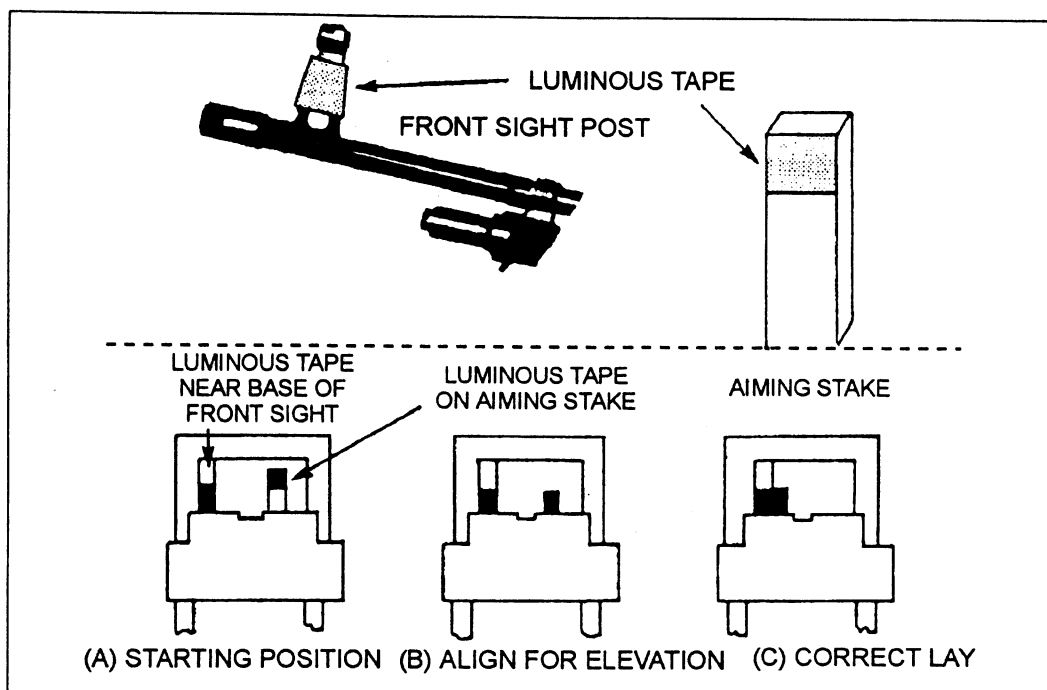

Fig 4-30. Aiming stake method.
c. Aiming stake method. Luminous tape, luminous paint, or some other suitable material is needed to use this technique. After the gun has been laid to hit the target, follow the steps listed below (see fig 4-30):
- (1) Place a strip of luminous tape or paint at least halfway up the rear of the front sight post and on top of a stake.
- (2) Raise the rear sight slide to its uppermost position.
- (3) Move the head slightly to the right so the front sight post appears in the left corner of the rectangle formed by the rear sight slide and the rear sight lead. Maintaining the same positions and grip, direct the assistant gunner to drive the stake into the ground about 1 meter in front of the gun. Align the stake so the two pieces of luminous material are adjacent (aligned for direction) and the top edges of both pieces of material are level (aligned for elevation). Set out one stake is for each target.
- (4) To hit a target when it cannot be seen, raise the rear sight slide to its uppermost position and manipulate the gun until the correct sight picture is obtained by aligning the luminous tape.